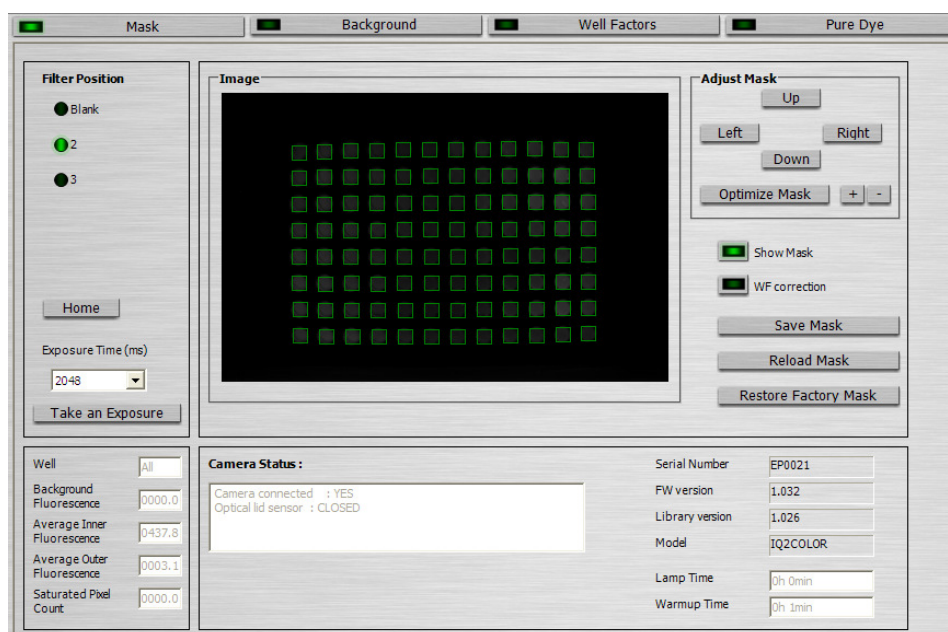

Fig. 7.1. The Mask Image Window for the MyiQ2 Real-Time PCR Detection System.
3. Select the Mask tab in the Calibration module to open the image window (Figure 7.1).